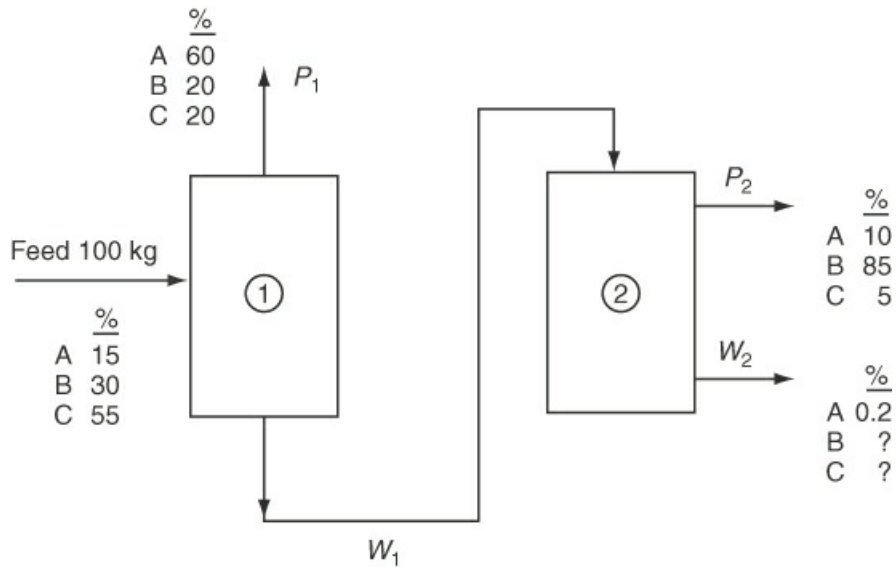

Figure P5.1.6
*****5.1.6** In Figure P5.1.6 you see two successive liquid separation columns operating in tandem in the steady state (and with no reaction taking place). The compositions of the feed and products are as shown in the figure. The amount of W_2 is 20% of the feed. Focus only on the material balances. Write down the names of the material balances for each column treated as separate units (one set for each column), along with the balances themselves placed next to the names of the balances. Also, place an asterisk in front of the names of the balances that will constitute a set of independent equations for each column. Write down in symbols the unknowns for each column. Calculate the degrees of freedom for each column separately.